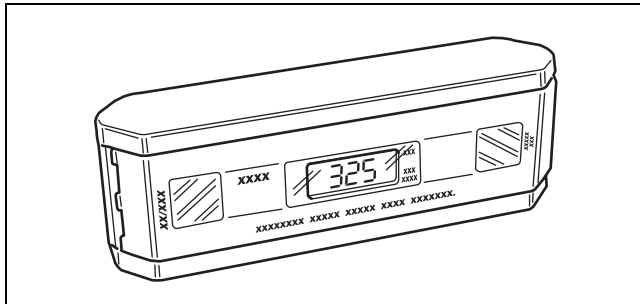
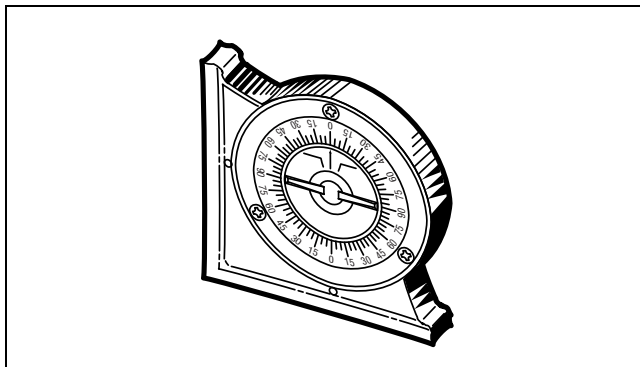

Figure 13.1
Figure 13.2
- An inclinometer or a spirit level protractor to measure driveline angles. Figure 13.1 and Figure 13.2.